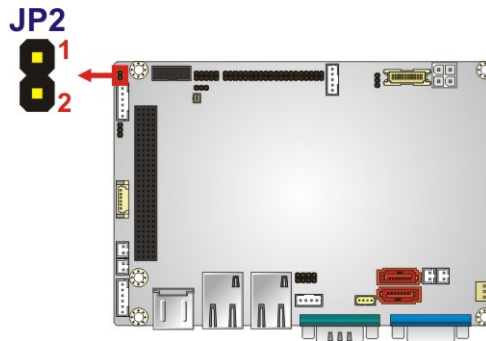

Figure 4-1: AT/ATX Power Selection Jumper Location
- Jumper Location:** See Figure 4-1